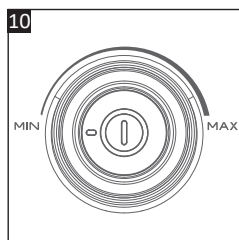

Fig. 10
- Turn the Suction power control knob (13) to adjust the suction power according to the type of surface to be cleaned (**Fig. 10**).